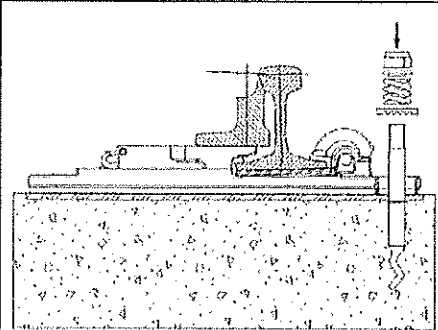

Fig. 2-Placing the fastening materials
4. Place insulation bushes, helical springs, collared washers and self-locking hexagonal nuts on the anchor bolts and tighten them. The compression springs must be tightened up to the defined height level – required torque: approx. 40Nm, Fig. 2.